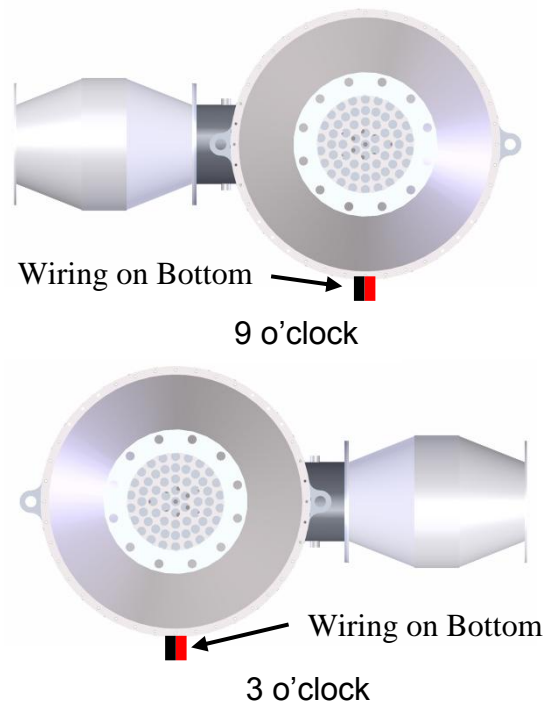

Figure 4: 3 o'clock & 9 o'clock Side Out Orientations (looking at inlet upstream of unit)
- b. For side out designs, the outlet flange must be oriented either in the 3 o'clock or 9 o'clock positions as shown in Figure 4. To determine which orientation, the electrical wiring must be located on the ground side of the filter (protruded out the bottom). If the wiring is on the top, the DPF is oriented incorrectly.